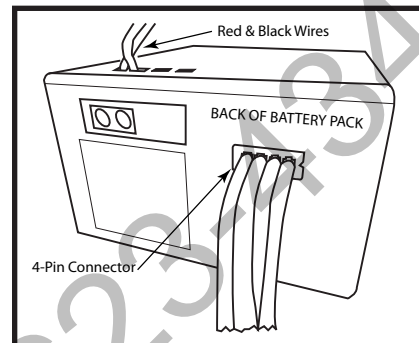

Fig. 10 Battery Pack Wires
The battery pack is located in the back of the Switch Box inside the black metal case secured with Velcro (See Figs. 8-12). The Switch Box battery pack has a 4-pin connector, 6-inch long wire harness connecting the battery pack to the electronic module. The red and black wires from the battery pack are connected to the coordinating colored wires of the motor drive or solenoid (if applicable to your model). See Figs. 10 & 12. Remove the battery pack during installation. **NOTE:** All Valve Kits are battery powered systems and will not operate without the battery pack. An optional AF-4000ADP24 (120VAC to 7.5VDC adapter) may be used.
2. The 6-inch 4-pin male connector on the battery pack comes pre-installed to the 4-pin female connector located on the battery pack and module (See Fig. 10).
4. After the valve kit installation process is completed reinstall the battery pack back into the back area of the Switch Box as shown in figure 10 install the RS-1A heat shield OVERTOP of battery pack to protect from heat.